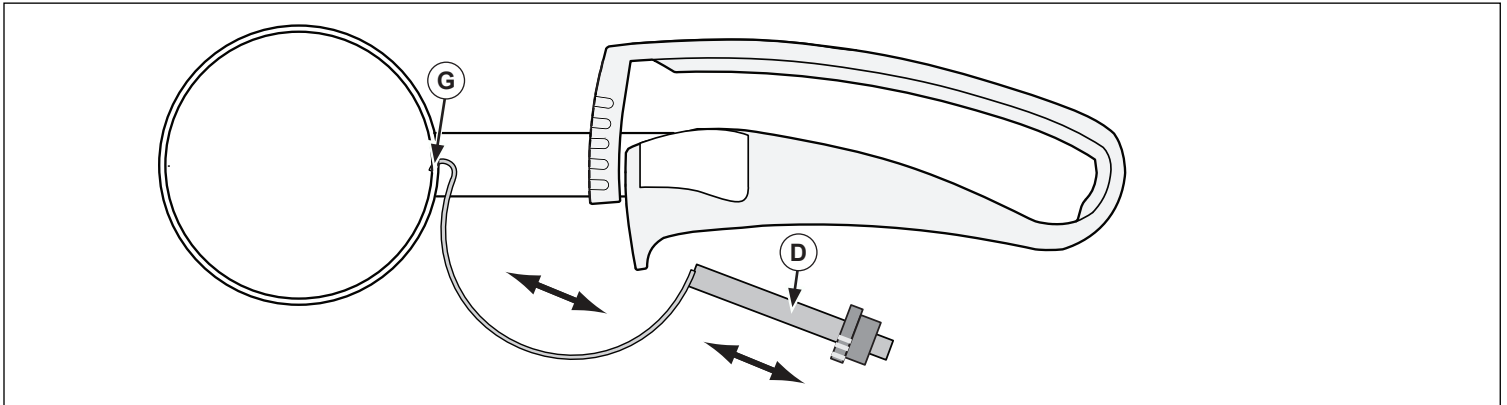

Figure 6. Sweep Assembly and Inside Hole.
6. Completely remove the sweep assembly (D) from the hole (G). See Figure 6.
7. Place the sweep assembly (D) into the hole (G) as shown. See Figure 6.